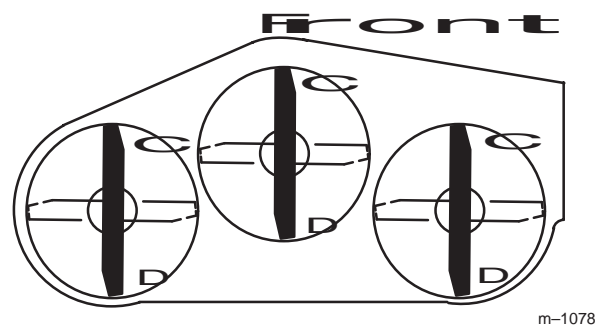
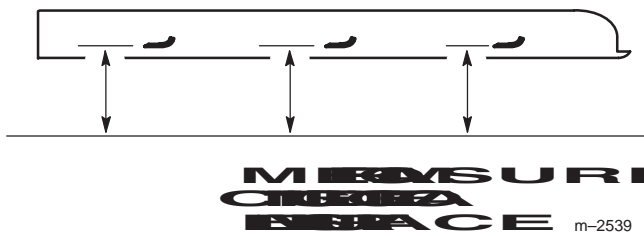

Figure 56
Figure 57
2. Position one blade front-to-rear (Fig. 56). Measure at "C" and "D" locations (Fig. 56) from a level surface to the cutting edge of the blade tips (Fig. 57).
4. Position the blades front-to-rear (Fig. 56). Measure at "C" and "D" locations (Fig. 56) from a level surface to the cutting edge of the blades (Fig. 57).